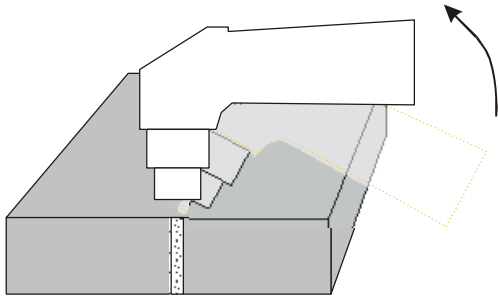

Fig. 5
6. We recommend starting cutting at the edge of the material. If needed to start from the centre of the material, or to cut hole into the material, slightly tilt the torch head and gradually it straighten into a vertical position so the spraying material would not damage the cutting tip (see Figure 5). This workflow must always be followed, if the thickness of material is above 3 mm.